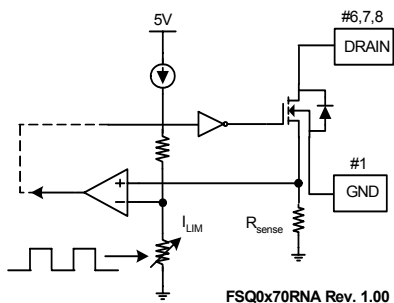

**Figure 15. Overload Protection (OLP)**
**4.1 Overload Protection (OLP):** Overload is defined as the load current exceeding a pre-set level due to an unexpected event. In this situation, the protection circuit should be activated to protect the SMPS. However, even when the SMPS is operating normally, the OLP circuit can be activated during the load transition. To avoid this undesired operation, the OLP circuit is designed to be activated after a specified time to determine whether it is a transient situation or a true overload situation. In conjunction with the  $I_{PK}$  current limit pin (if used), the current mode feedback path limits the current in the SenseFET when the maximum PWM duty cycle is attained. If the output consumes more than this maximum power, the output voltage ( $V_O$ ) decreases below nominal voltage. This reduces the current through the opto-coupler LED, which also reduces the opto-coupler transistor current, thus increasing the feedback voltage ( $V_{FB}$ ). If  $V_{FB}$  exceeds 3V, the feedback input diode is blocked and the 5 $\mu$ A current source ( $I_{DELAY}$ ) starts to slowly charge  $C_{FB}$  up to  $V_{CC}$ . In this condition,  $V_{FB}$  increases until it reaches 6V, when the switching operation is terminated, as shown in Figure 15. The shutdown delay time is the time required to charge  $C_{FB}$  from 3V to 6V with 5 $\mu$ A current source.